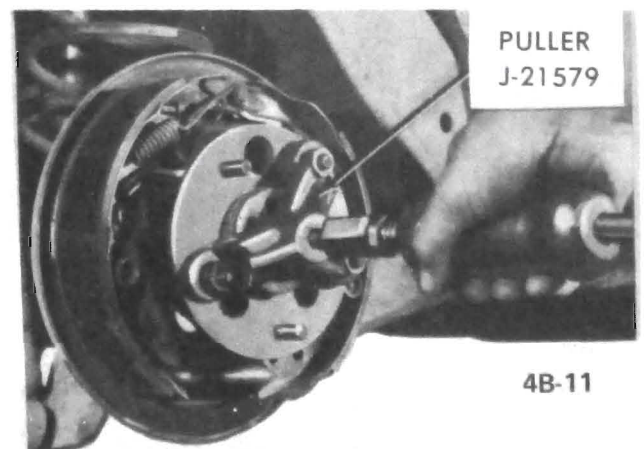

Figure 4B-11 Removing Rear Axle Shaft
b. Pull out axle shaft assemblies, using Puller J-21579 with a slide hammer. See Figure 4B-11.